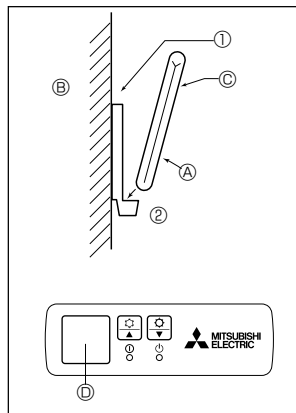

Fig. 6-5
2) Installation method (Fig. 6-5)
- ① Attach the remote controller holder to the desired location using 2 tapping screws.
- ② Place the lower end of the controller into the holder.